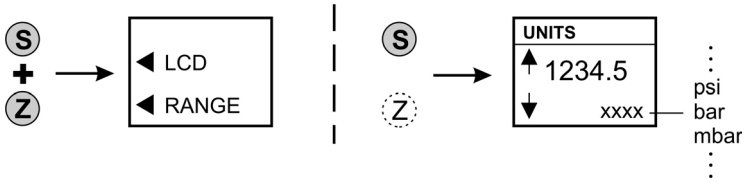

Figure 4-5 Selection sequence - LCD configuration
4.4 Manual Configuration - LCD (Figure 4-5)